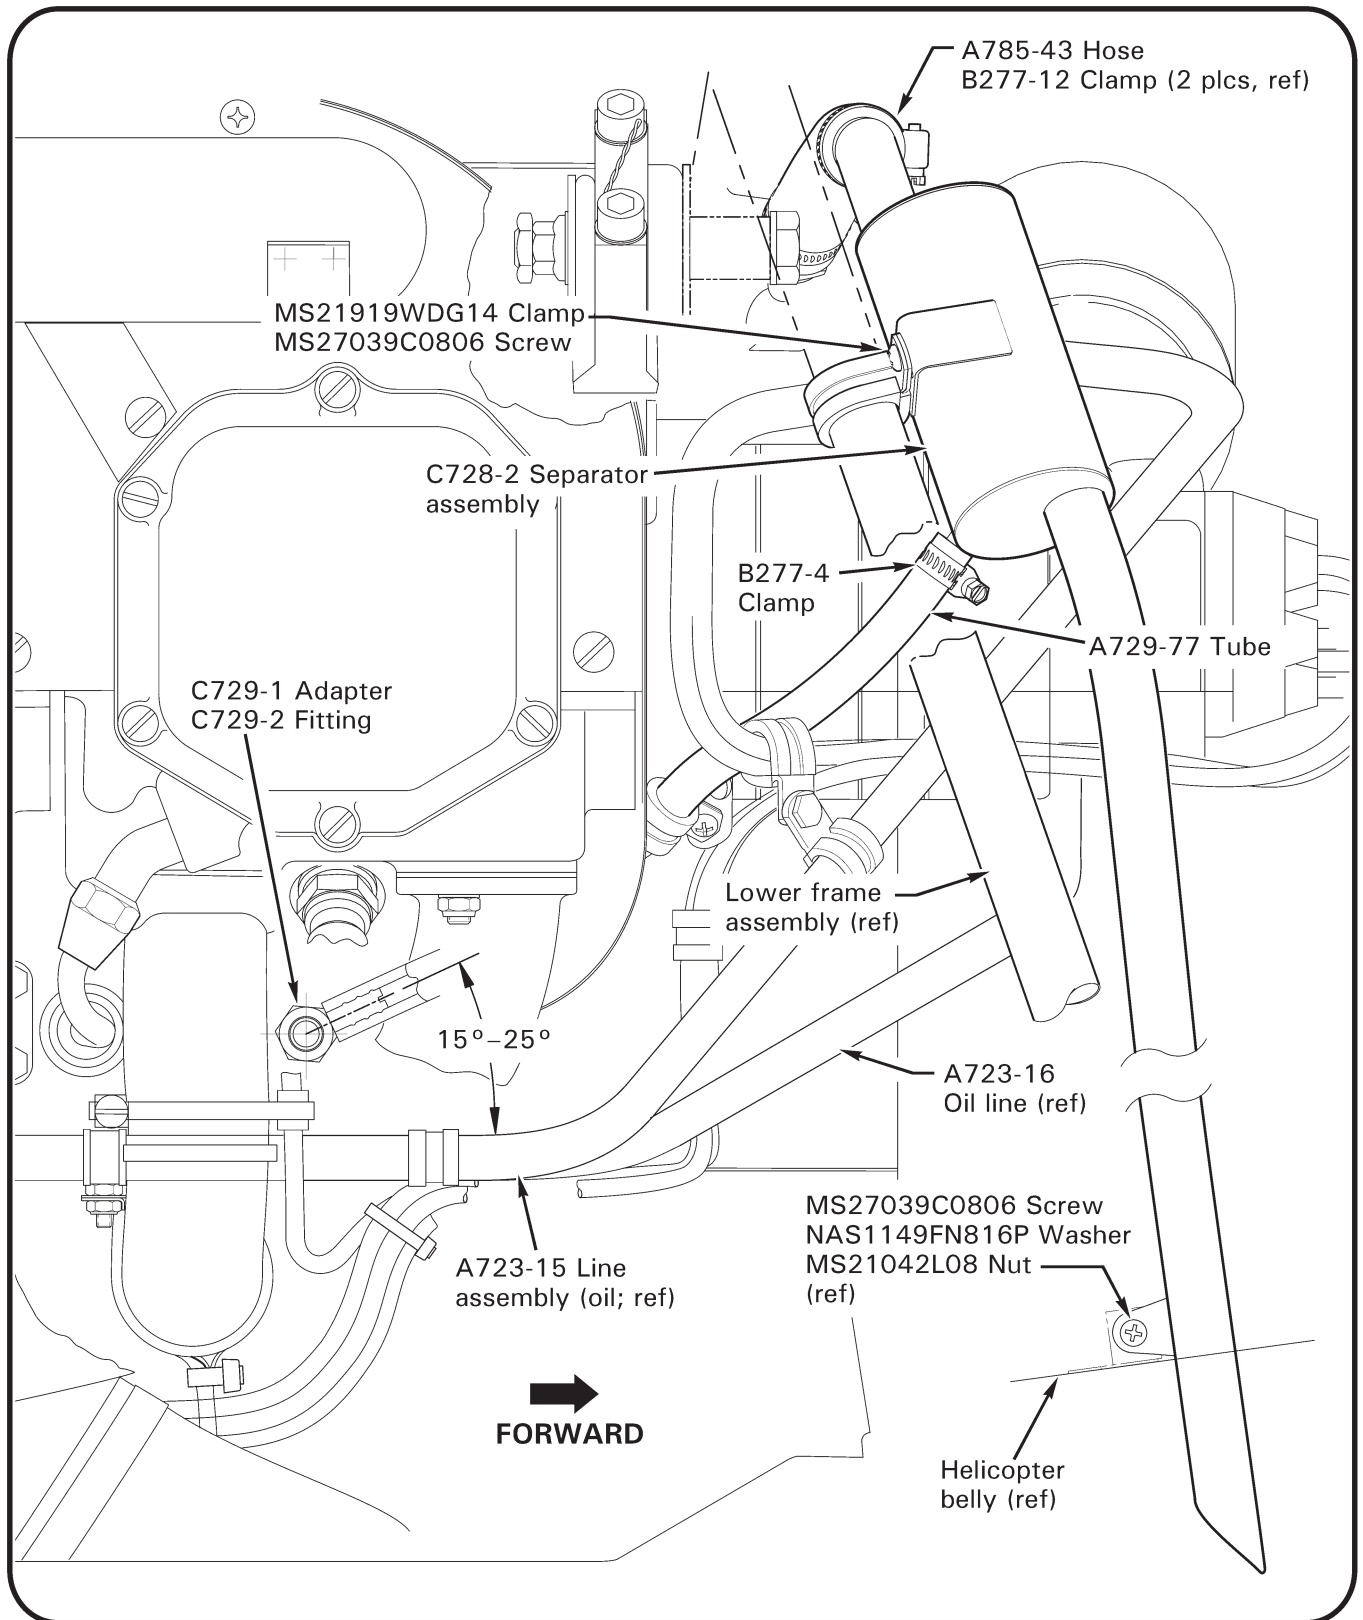
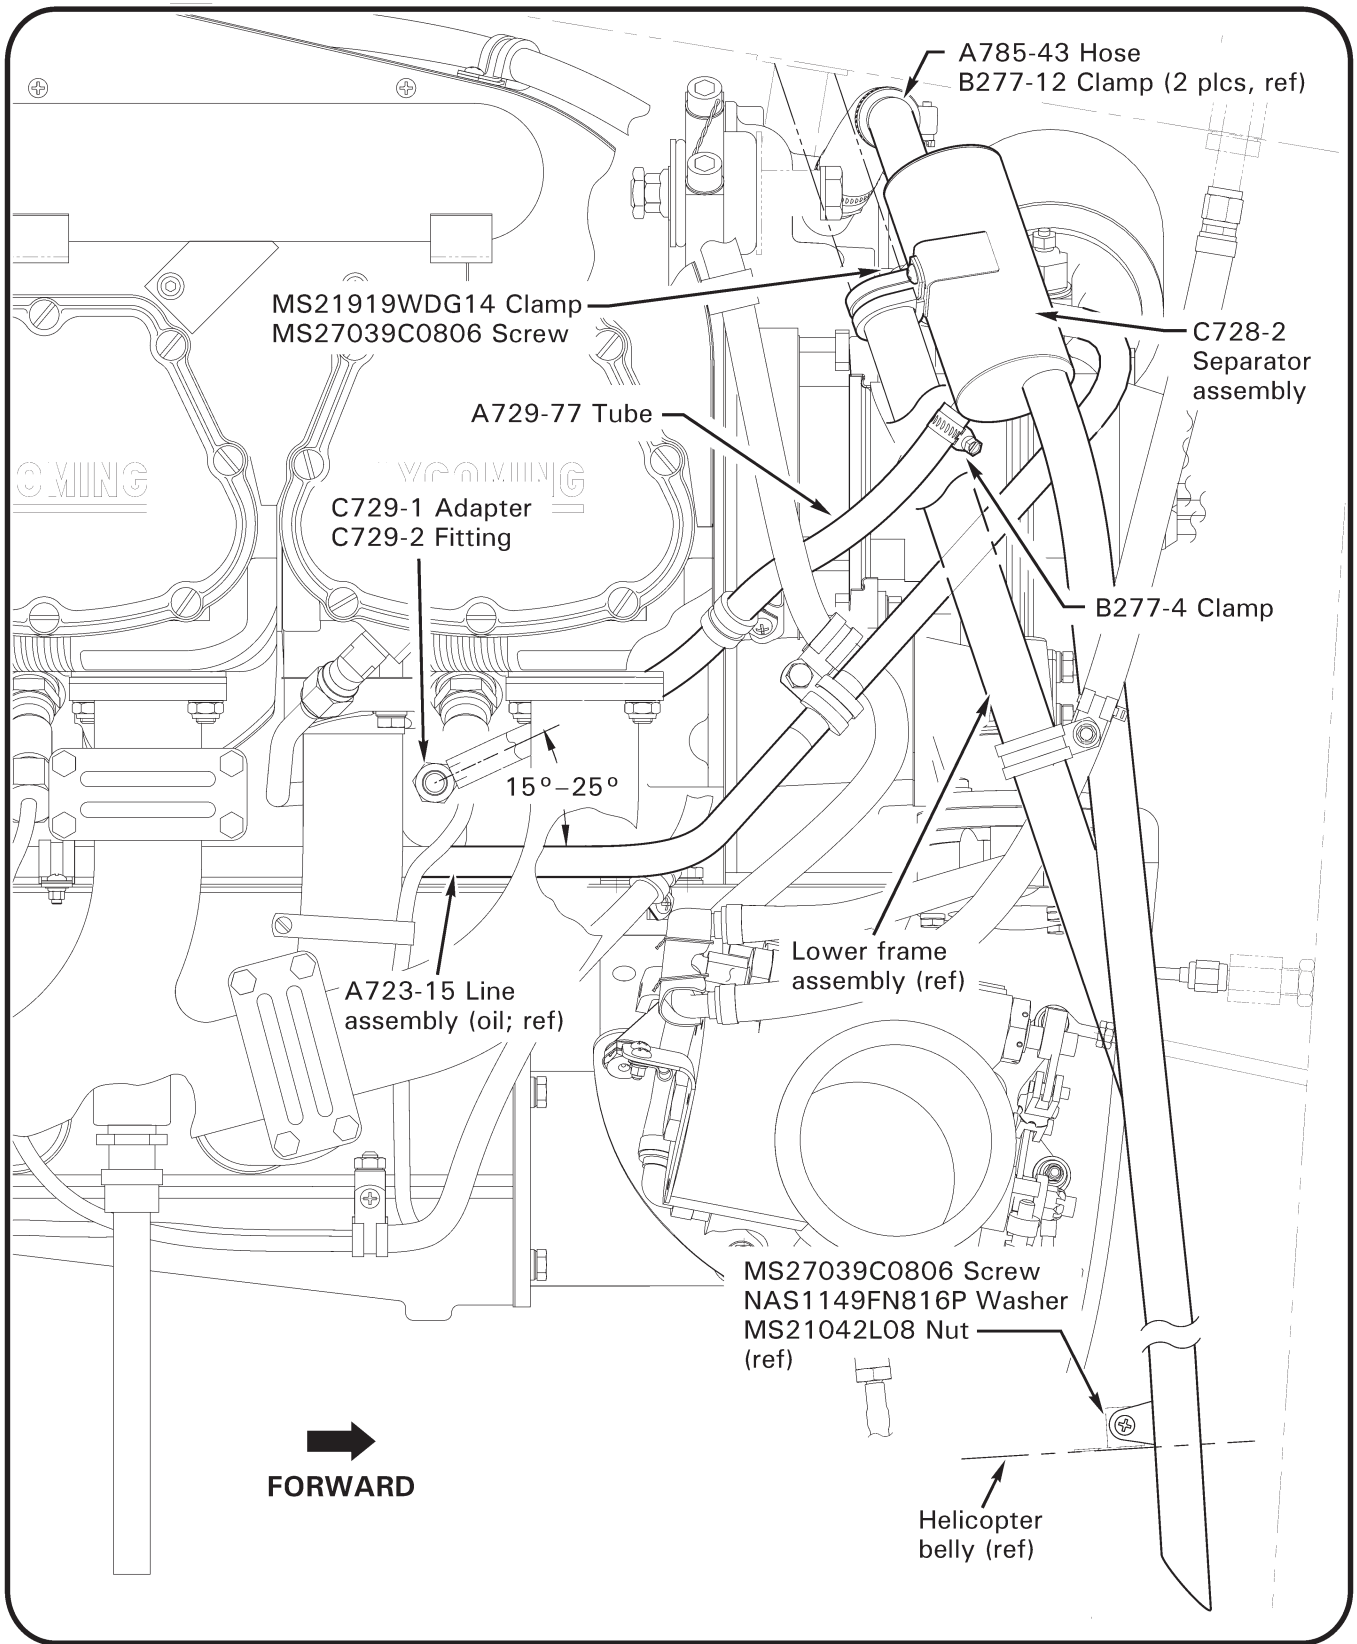

FIGURE 1 Installation of separator and associated parts (O-540 engine)
FIGURE 2 Installation of separator and associated parts (IO-540 engine)
3. Refer to Figure 1 or Figure 2, as applicable. On C729-1 adapter, apply two overlapping wraps of A701-11 tape to external tapered pipe thread; do not apply tape to adapter's first thread. Install adapter in crankcase, torque to 85 in.-lb, then tighten as required so threaded hole points forward and 15 to 25 degrees above horizontal.
7. Refer to Figure 1 or Figure 2. Install bottom of C728-2 separator assembly thru hole in belly and insert upper end into A785-43 hose. Lightly clamp tab at lower end of separator assembly to adjacent B288-7 airframe tab using (1) MS27039C0806 screw, (1) NAS1149FN816P washer, and (1) MS21042L08 nut. Secure separator assembly's can to adjacent frame tube using (1) MS27039C0806 screw and (1) MS21919WDG14 clamp, with clamp's screw holes outboard. Fully tighten screw securing lower end of separator assembly. Ensure A785-43 hose is not deformed; reposition as required. Tighten both clamps. Verify security.
9. Refer to Figure 1 or Figure 2. Slide A729-77 tube onto drain protruding from separator assembly's can, and secure with B277-4 clamp. Slide opposite end of tube fully onto C729-2 fitting. With clamp's screw holes inboard and up, position MS21919WDG8 clamp on A729-77 tube. Lightly attach clamp to C729-14 bracket using MS27039C0806 screw. Adjust position of clamp & bracket so A729-77 tube is straight as obtainable. Torque bolt to 96 in.-lb. Tighten clamp screw. Verify security. Ensure tube's aft end is fully on C729-2 fitting.